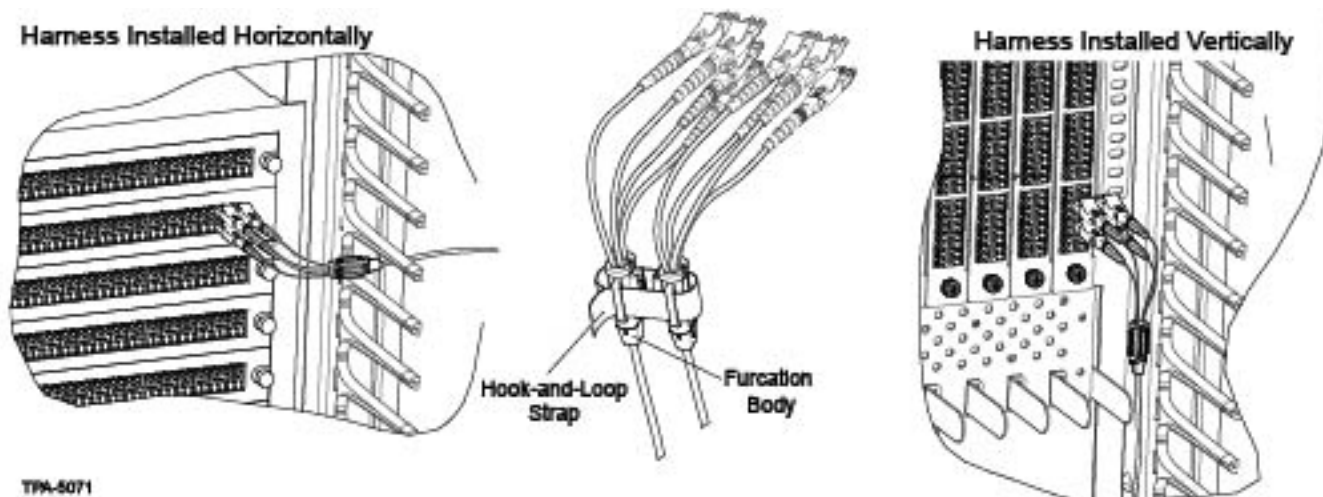

Figure 26 — Typical Harness Configurations
**Step 5:** Mate the connectors at the end of the harness, jumper, or trunk in the electronics equipment as illustrated in Figure 26 per instructions provided with that equipment, or according to your installation plan.